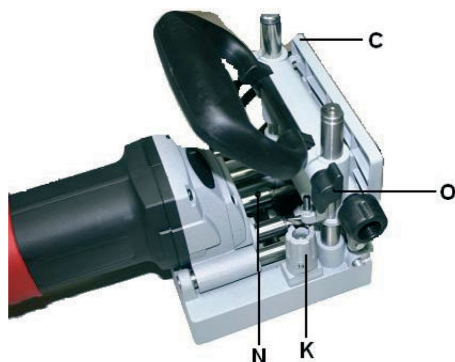

Fig.3
- H Flip angle graduated scale (Fig.3)
- Loosen wing nut **(F)** (Fig.3).